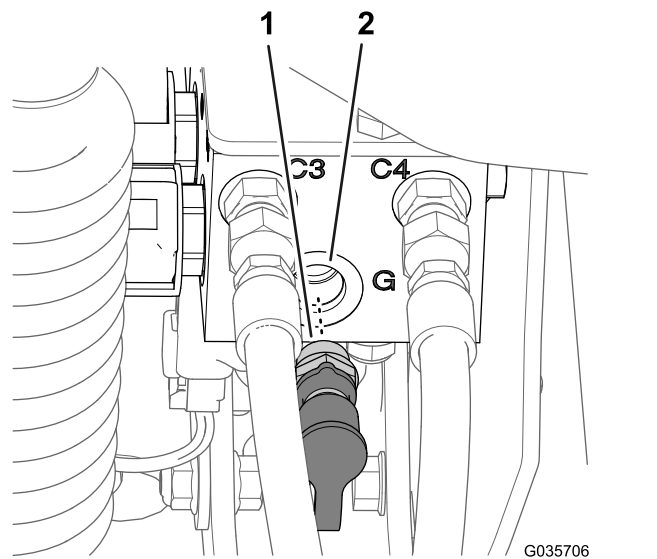

Figure 6
4. Remove the diagnostic fitting and cap from port-G of the old lift-cylinder manifold (Figure 6)